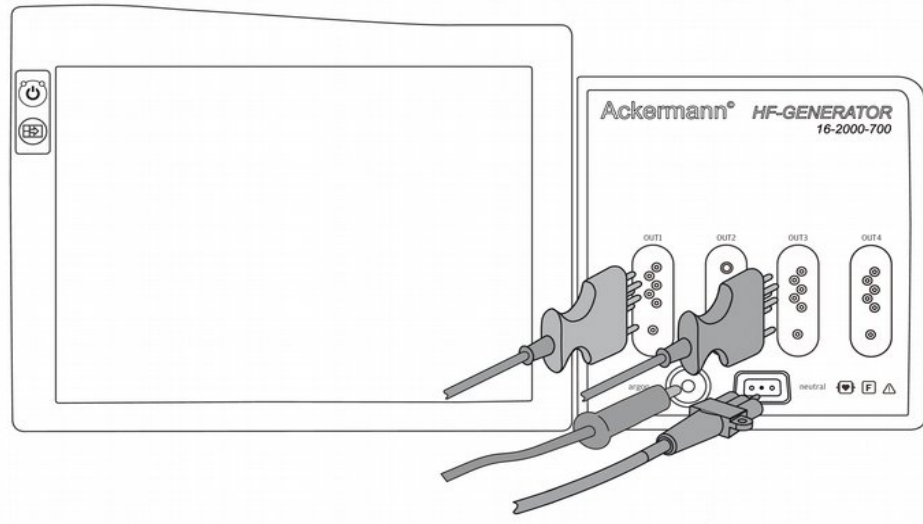

Fig. 9. How to connect accessories to outputs 1 and 3 (ASD) in the HF 16-2000-700 system, Version I
How to connect **accessories** to the universal outputs (**Fig. 1 items 1, 3**) with the Smart Device instrument detection system is explained in **Fig. 9**.